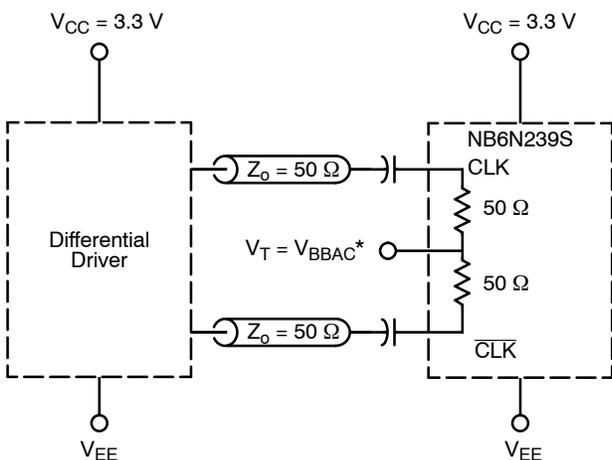

Figure 16. Capacitor-Coupled Differential Interface ( $V_T$  Connected to  $V_{BBAC}$ )
- $V_{BBAC}$  used to rebias capacitor-coupled inputs only (see Figures 16 and 17).